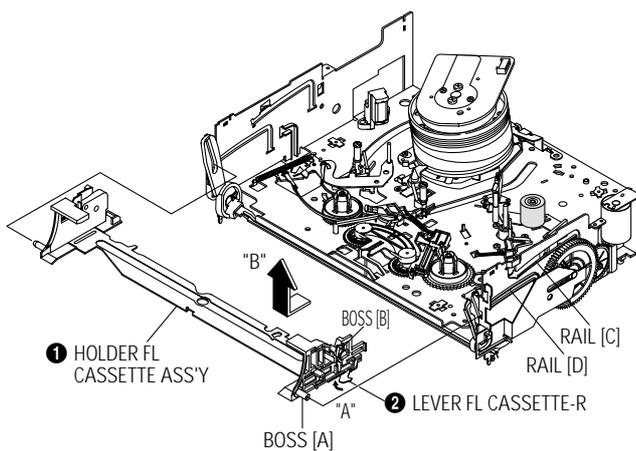

Fig. 4-10 Holder FL Cassette Ass'y Removal
- 2) Remove the Holder FL Cassette Ass'y. (Refer to Fig. 4-10)
- 3) Release the Hook ❶ in the direction of arrow "A", pull out the Lever FL Arm Ass'y ❷ from the Boss of Main Base.
- 4) Remove the Lever FL Arm Ass'y ❷ in the direction of arrow "B".